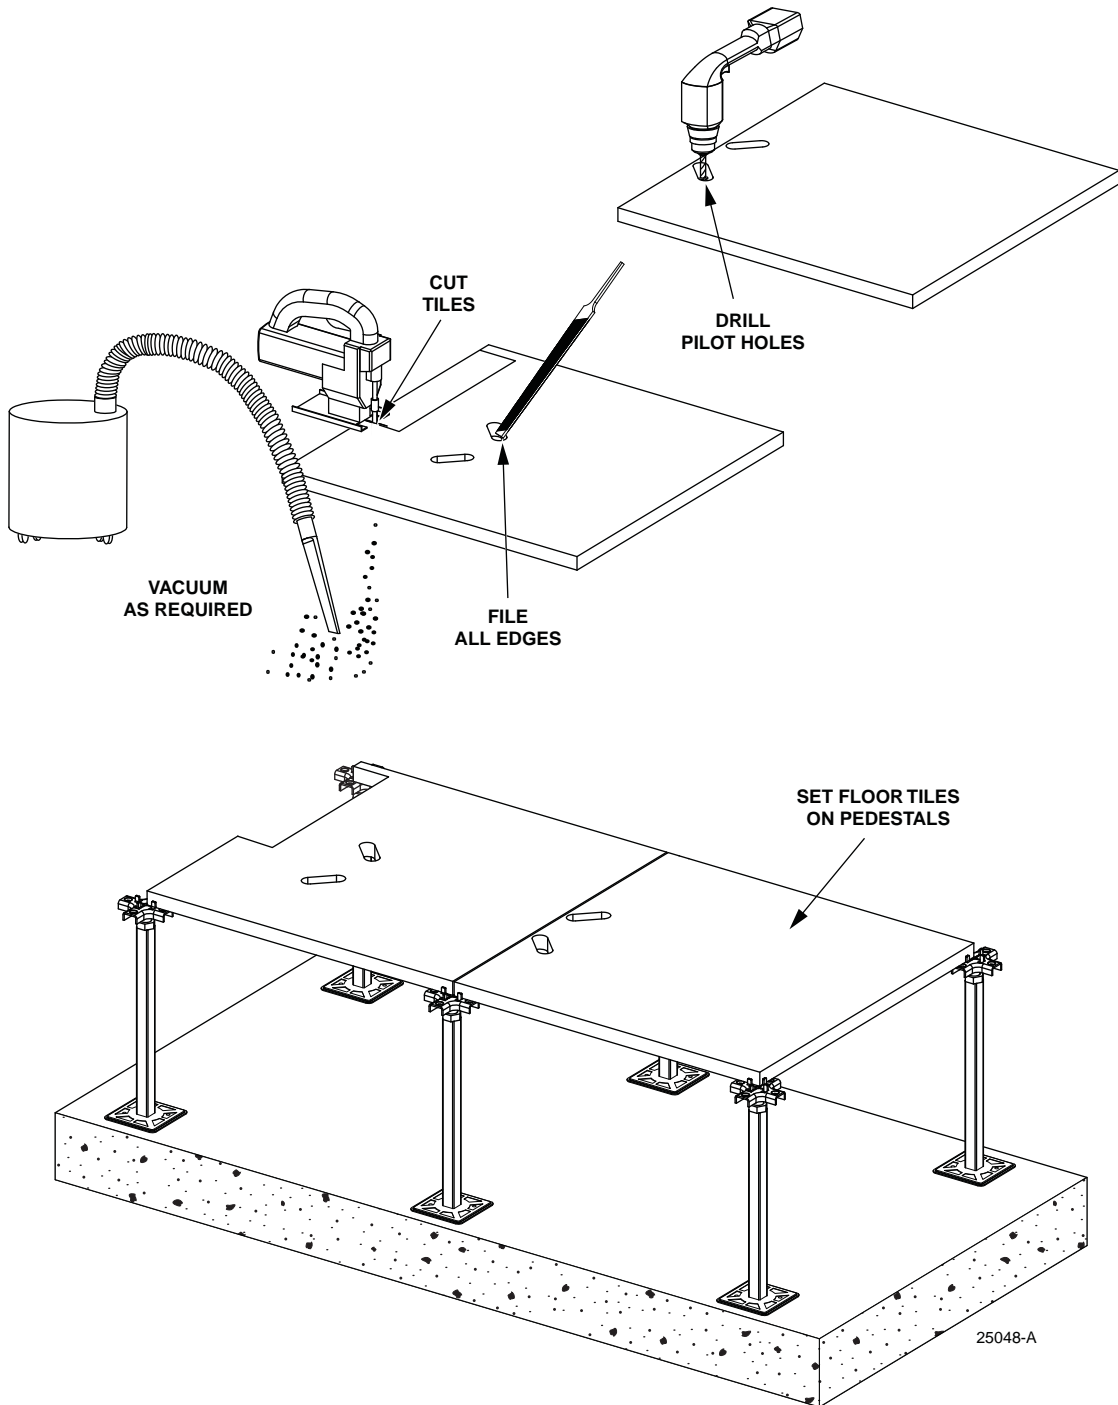

Figure 6. Setting Floor Tiles on Pedestal
5. Remove and cut the tiles, file all edges, and set the floor tiles on the pedestals, as shown in Figure 6.